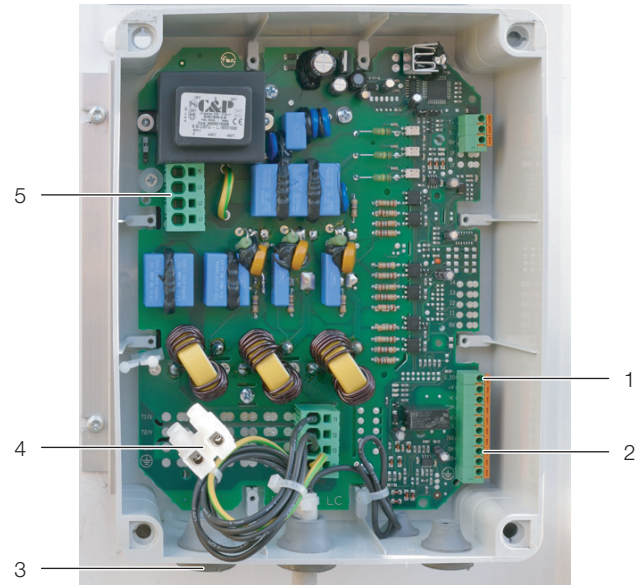

Fig. 31: Electrical connection on the condenser for indirect free cooling
The voltage supply in the connection box (fig. 31, item 3) is connected on the condenser for indirect free cooling.
- Connect the cable to the connection clamps (fig. 31, item 5).
The control and/or signal cables must likewise be laid between the relevant connection points on the condenser for indirect free cooling (fig. 31, item 1, 2 and 4 and fig. 32, item 2) and the electronics box on the LCP DX/FC. Connection to the X2A terminal strip is made inside the electronics box.